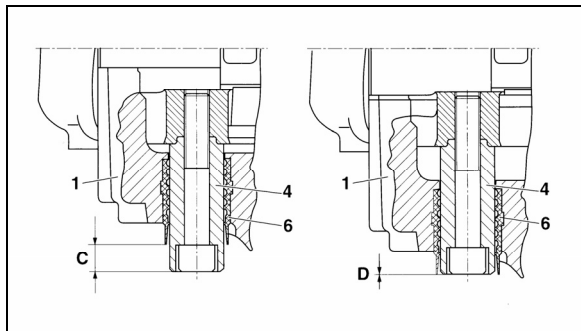

FIGURE 22: BRAKE PAD CHECK
Brake pads have to be checked on a regular basis depending on the vehicle operation. The remaining thickness of the pads should never be less than 3/32 in (2 mm). To check pad condition without removing the wheel, verify the position of guide bushing (6) relatively to guide sleeve (4) (see Fig. 22). When guide sleeve is in alignment with guide bushing, brake pad thickness has to be checked more precisely with the wheel removed. When replacing brake pads, all four pads on an axle have to be changed at the same time. There is no inner or outer pad,